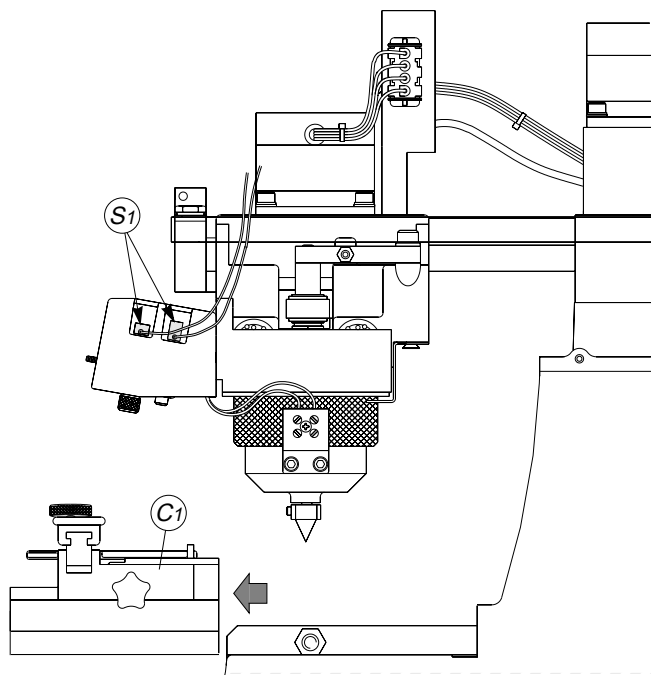

Fig. 35
- 3) remove the clamp (C1) (fig. 35).